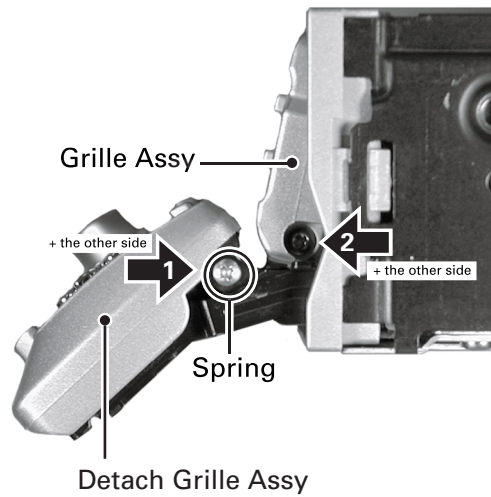

Fig.4
**1** Remove the two screws. (Fig.4)
**2** Remove the two screws. (Fig.4)